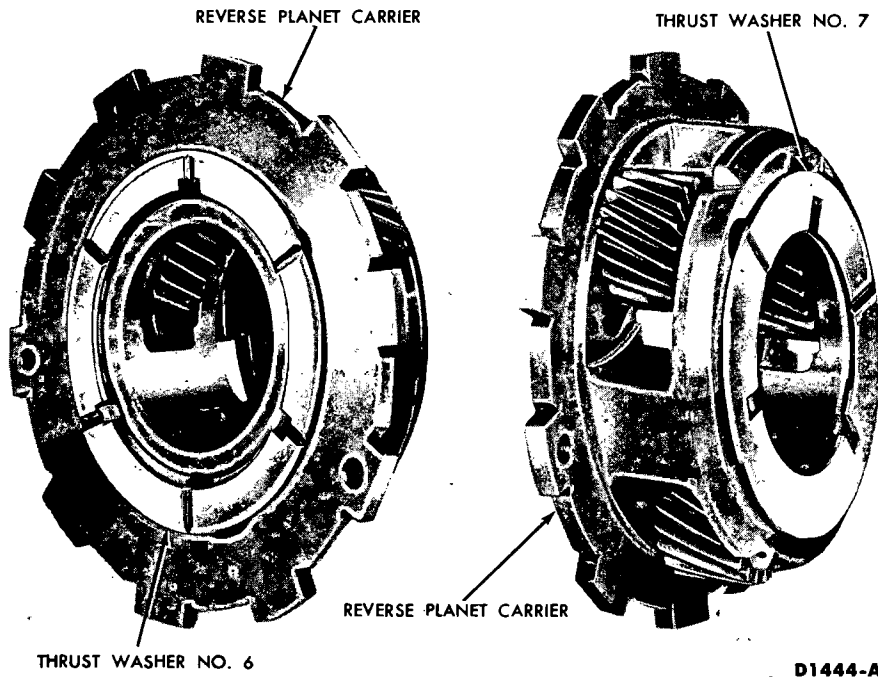

FIG. 109—Numbers 6 and 7 Thrust Washer Location
20. Place thrust washers Nos. 6 and 7 on the reverse planet carrier (Fig. 109).